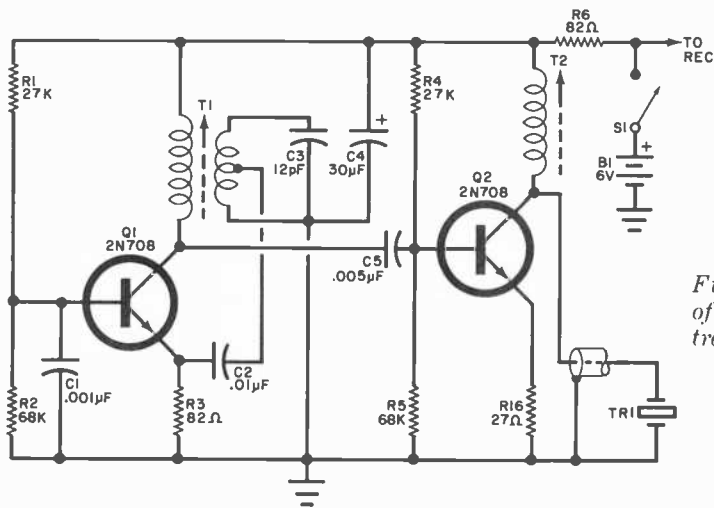

Fig. 1. Schematic of the stethoscope transmitter circuit.
**Circuit Operation.** In the transmitter circuit (Fig. 1) *Q1* operates as a 2-MHz oscillator. Positive feedback is